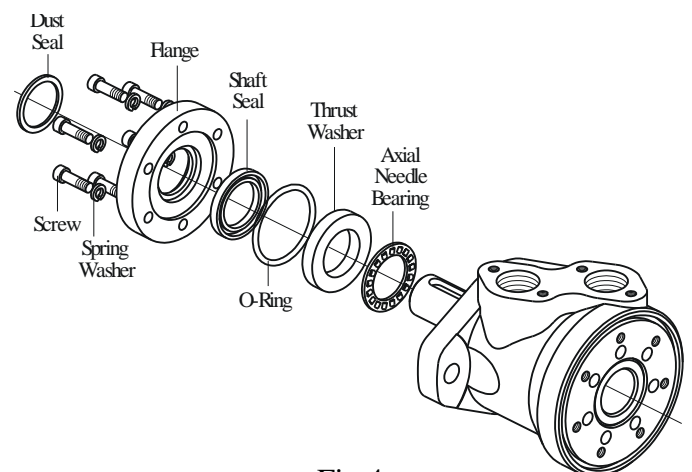

Fig.4
9. Unscrew screws using S6(5) Allen wrench (see Figure 4)